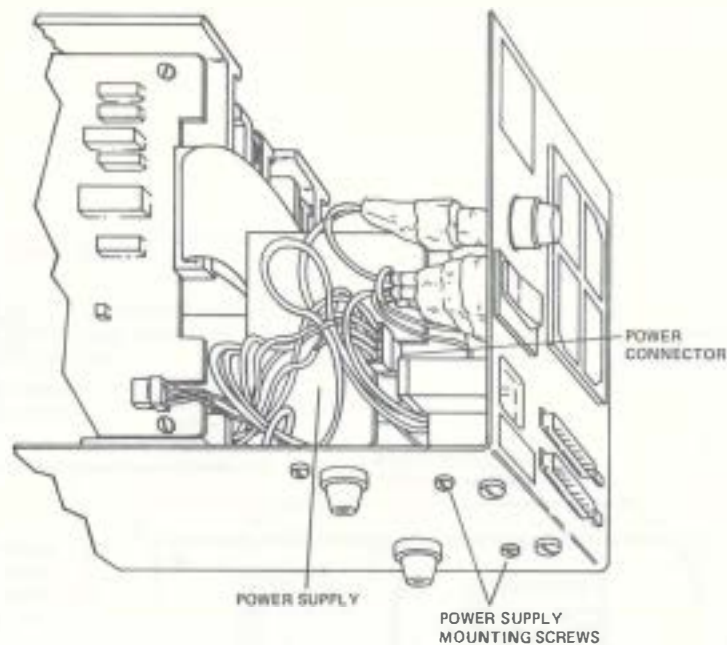

Figure 5-29. 8" Diskette Drive
4. Remove the four mounting screws securing the circuit board to the mounting bracket. Remove the circuit board. See Figure 5-29.